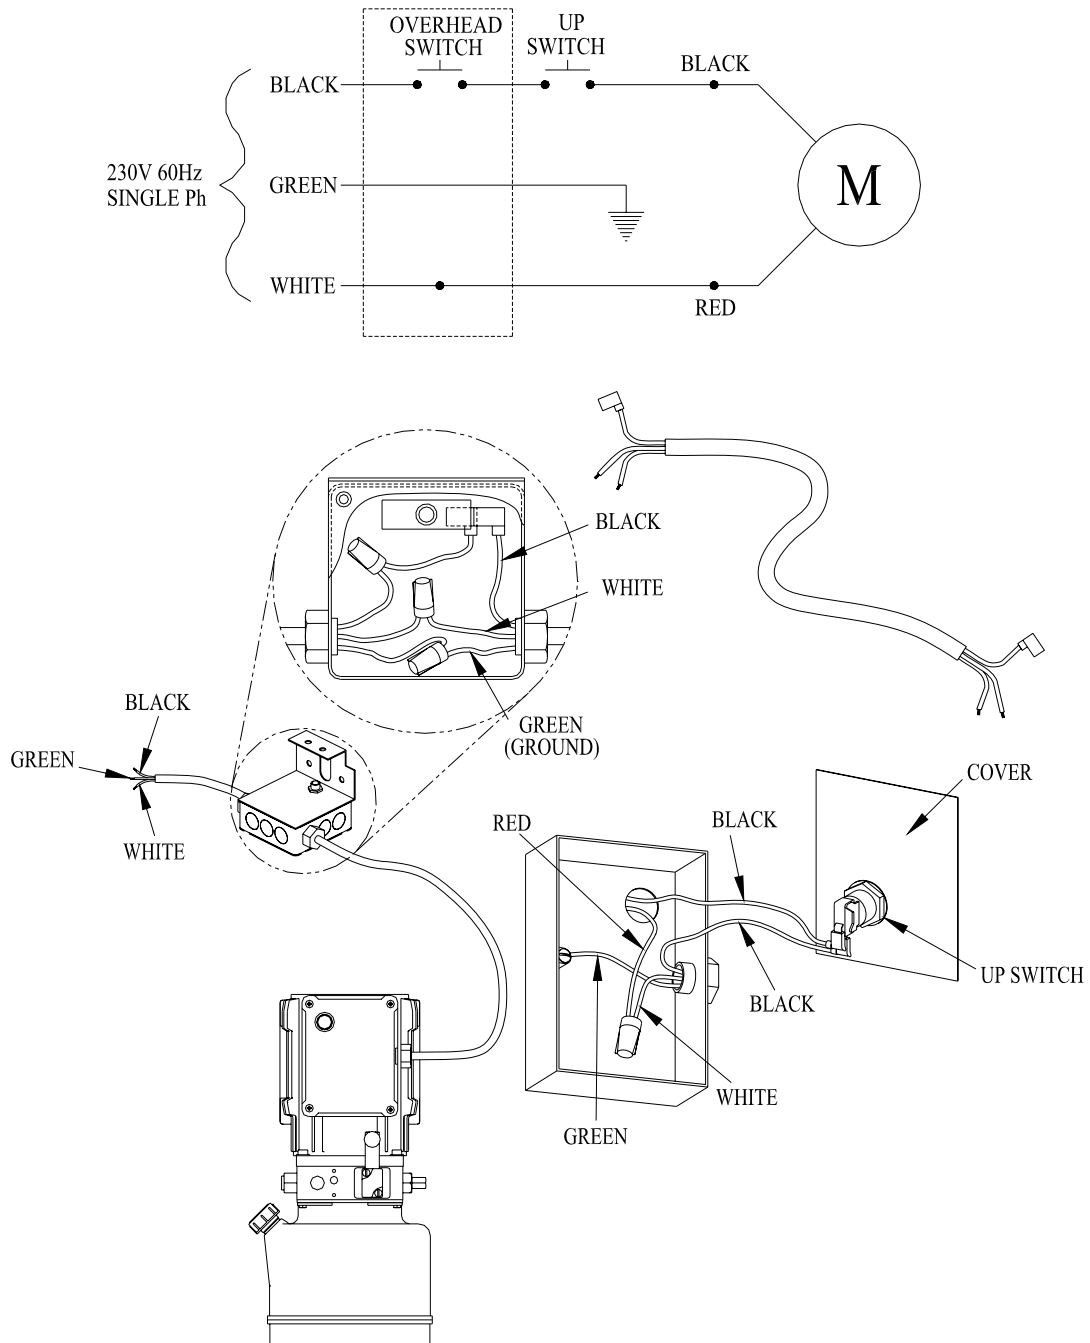

Figure 13
- A. Have a certified electrician establish 208-230V, single phase, 60 Hz., 20 amp, power supply to motor and overhead switch, figure 13.